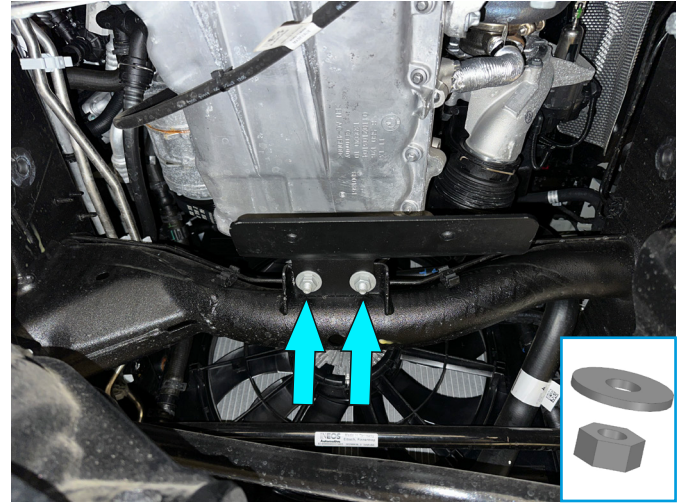

Fig. 2
2. Secure bracket (item 3) to the previously installed bolts using M10 nuts and M10 washers (items E, F) as shown in Fig.2.